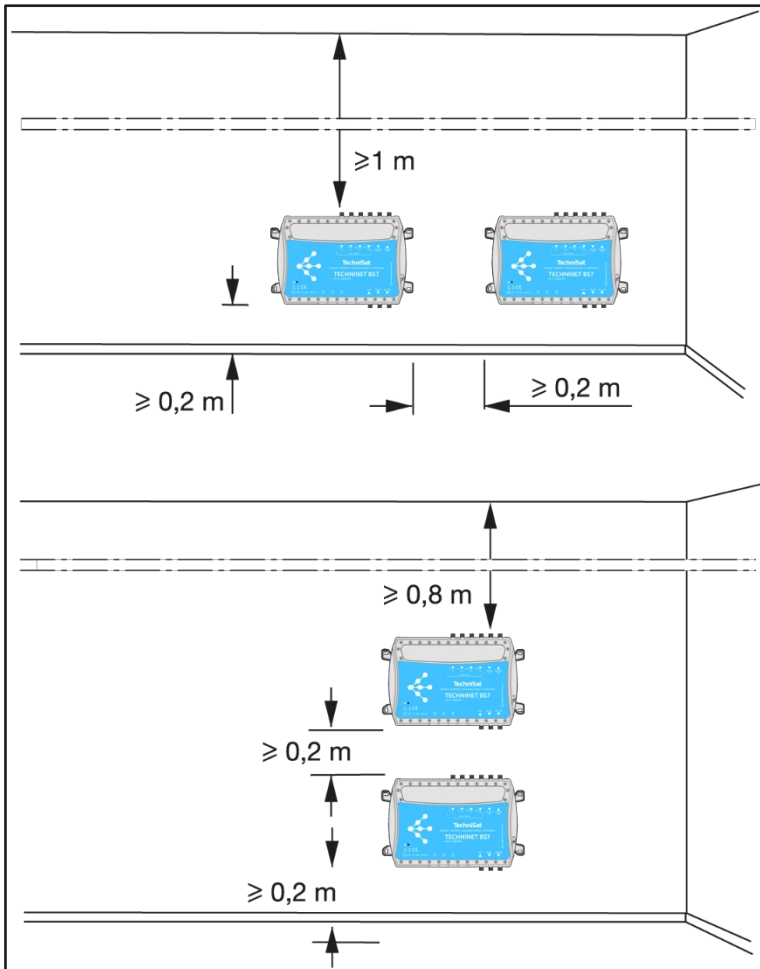

Fig. 7.1-2: Clearance and fastening required for ventilation
- ▶ Install the system with the required clearance as shown in Fig. 7.1-2